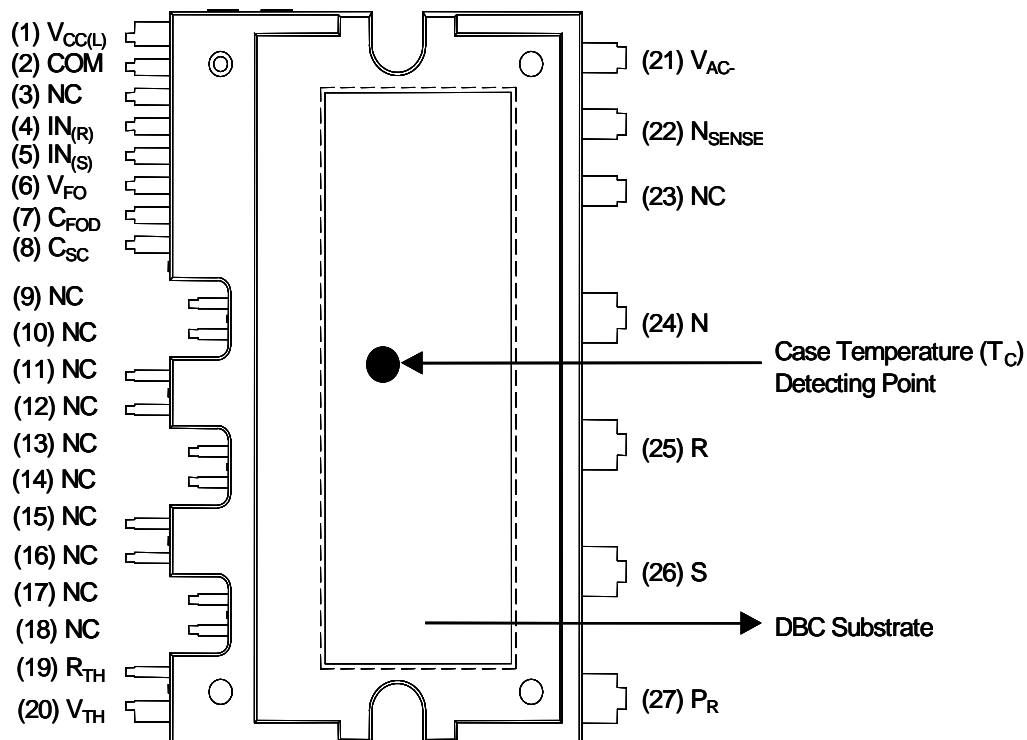

Figure 2. Top View
3. For the measurement point of case temperature( $T_C$ ), please refer to Figure 2.